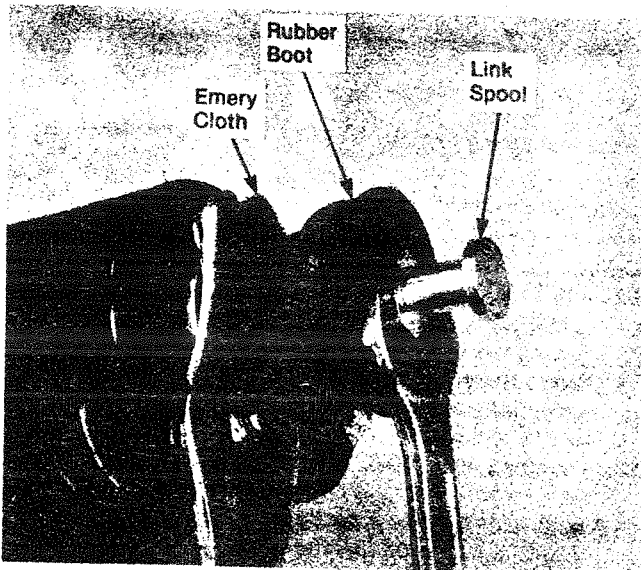

Figure 34
16.15 On MC, ME and MX motors, inspect the rubber boot and slide the closed end against the hex shoulder of the link spool. Install the link spool in the switch plunger and torque to 27-33 lbs. in. See figure 34. Insure that the plunger is not damaged during this procedure.